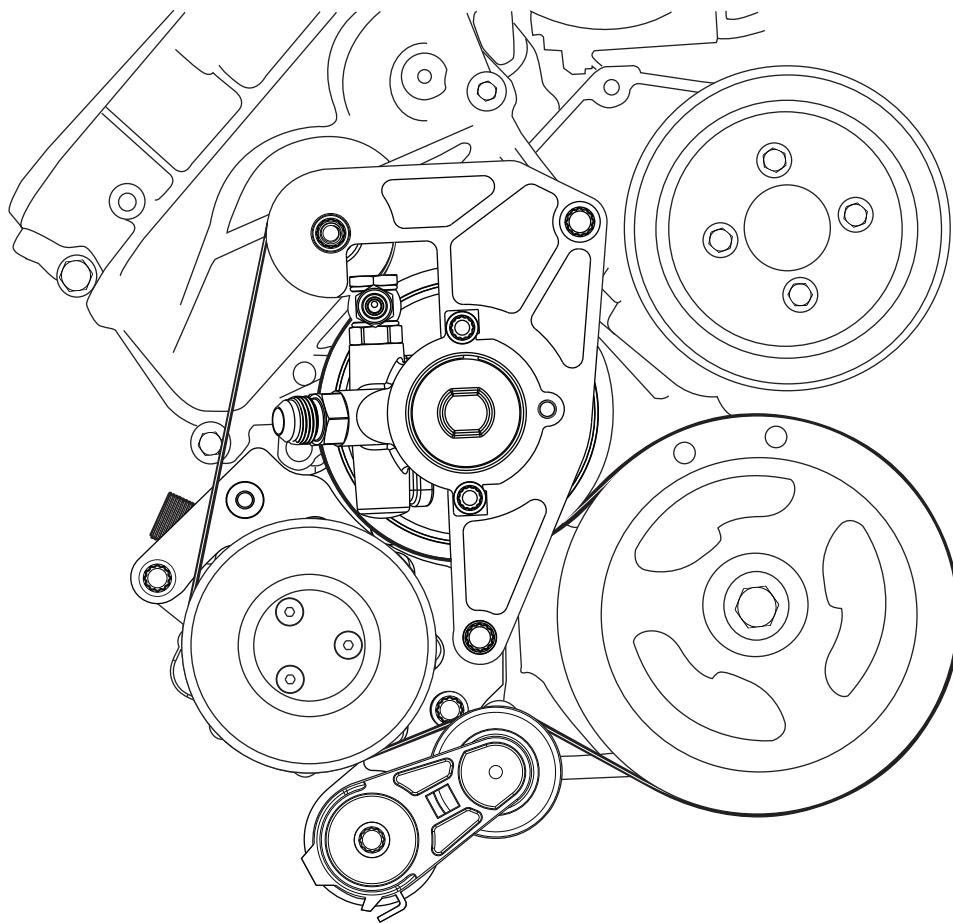

Figure 1
1. Install the compressor block onto the compressor as shown in Figure 1, below. **NOTE: Be sure not to dump oil out of compressor.**
1. Install the A/C compressor onto the lower bracket in a diagonal motion using (2) M8 x 1.25 x 35mm 12 pt SS bolts and (1) M8 x 1.25 x 25mm 12 pt SS bolt. Torque bolts to 24 ft-lbs (See Figures 1 & 1a, below).
1. Route the belt over the pulleys, then remove the rod/holding bolt. Belt should be installed as shown in Figure 1, below.